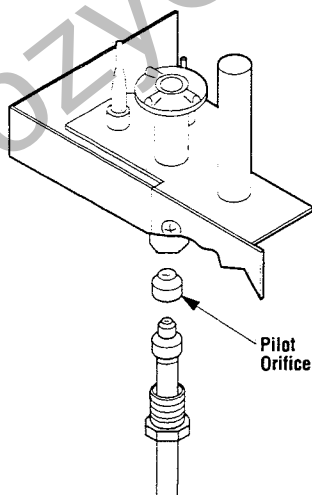

Figure 64
Step 8. Millivolt Appliances – Replace the pilot orifice with the one provided with the kit (Figure 64).